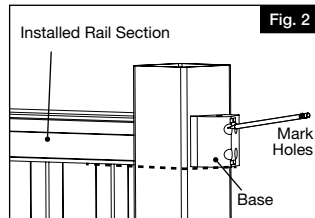

Fig. 2
- For 42" high rails, the top bracket dovetail will install $37\frac{1}{8}$ " from the top of the base trim and the bottom bracket will install $\frac{3}{4}$ " from top of base trim (Fig. 2).
- While holding bracket base against post, mark with a pencil the four screw holes for the angled bracket placement on this post (Fig. 2).
- 3** Place bottom rail on board and center the routes between posts making sure to leave equal distance from baluster route to post on both top and bottom. Mark the bottom rail using inside edge of posts (Fig. 2).